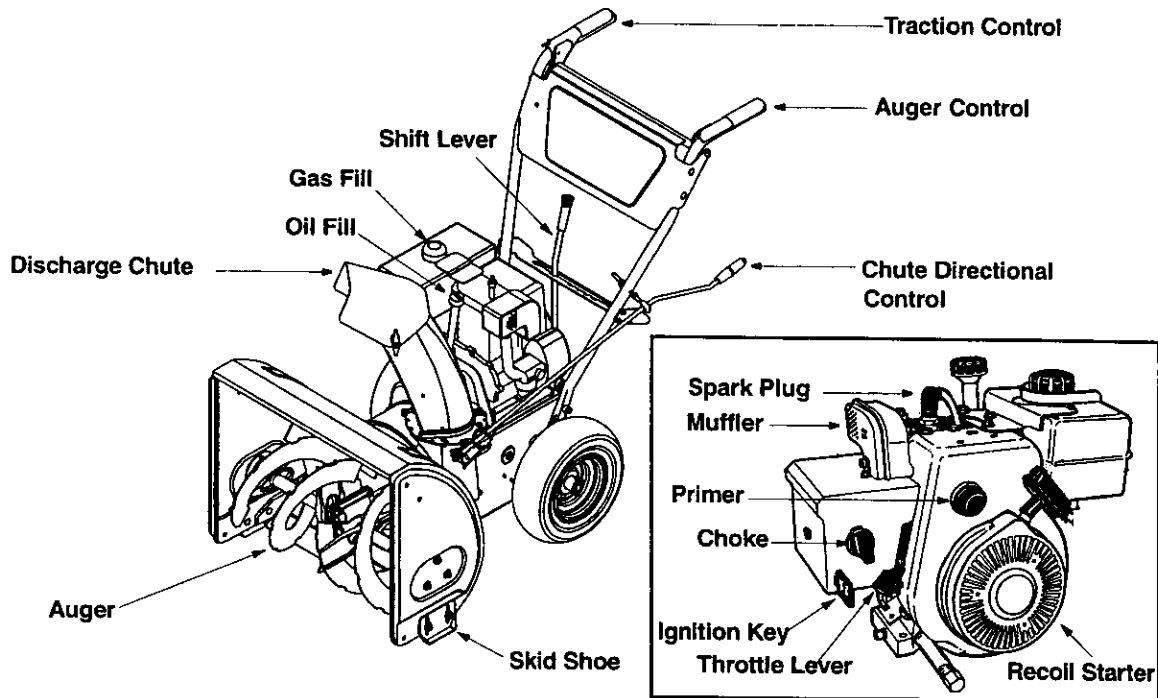

Figure 13
The shift lever is located below the handle panel. See Figure 13. The shift lever may be moved into one of seven positions. Run engine with throttle in the fast position. Use the shift lever to determine ground speed. There are five forward and two reverse speeds on this snow thrower. Among the forward speeds, position one (1) is the slowest and position five (5) is the fastest. Among reverse speeds, R2 is the faster.
The auger control is located on the left handle. Squeeze the auger control grip to engage the augers. Release to stop the augers. See Figure 13.
The traction control is located on the right handle. Squeeze the traction control grip to engage the wheel drive. Release to stop. See Figure 13.
The throttle control is located on the engine. It regulates the speed of the engine. See Figure 13.
The chute directional control is located on left side of the snow thrower. See Figure 13. To change the direction in which snow is thrown, turn chute directional control as follows:
The ignition key must be inserted in the switch before the unit will start. See Figure 13 inset. Remove the ignition key when snow thrower is not in use. Do not turn ignition key.